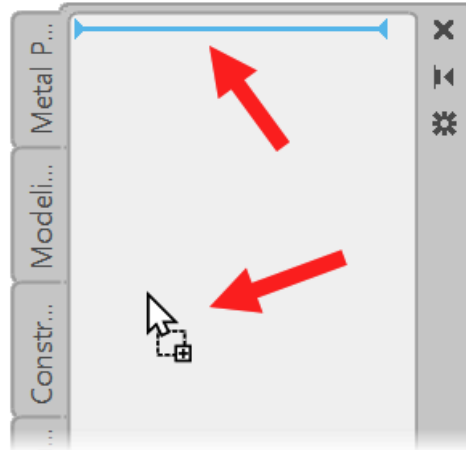

Figure 9.29: The + symbol and line on the new palette
9. As you drag over the new palette area, you will see a + (plus) symbol on the cursor and a line on the new palette, as shown in *Figure 9.29*.